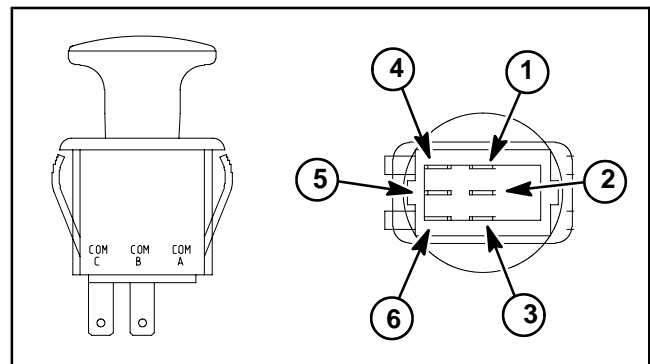

Figure 19
5. The switch terminals are marked as shown in Figure 19. The circuit logic of the PTO switch is shown in the chart below. With the use of a multimeter (ohms setting), the switch functions can be tested to determine whether continuity exists between the various terminals for each switch position. Verify continuity between switch terminals. Replace switch if testing identifies that switch is faulty.